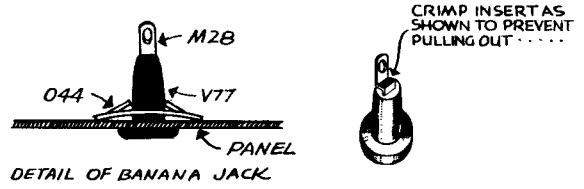

Fig. 7
- (✓) Note Figure 7 and mount the black banana jack (V77B) in location K. Slip the insert (M28) into the jack.